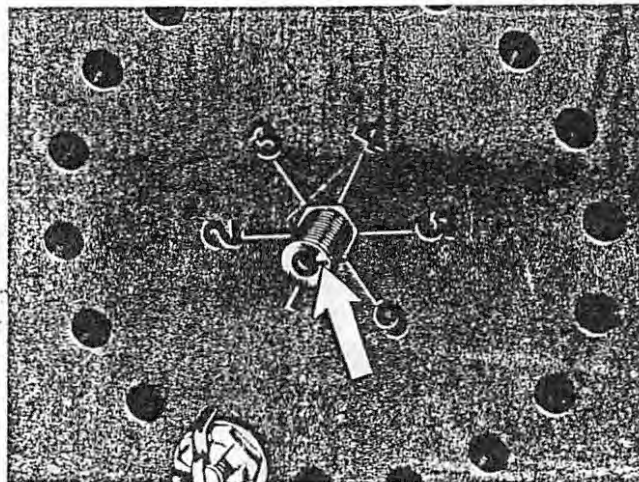

Figure 5-71. Control Shaft Scribe Mark and Pulley Index Numbers
f. When a governor is removed from the engine, it is often more convenient to remove the pulley from the governor rather than removing the control cable from the pulley. In this event, the numbered position of the pulley with respect to the index line on the control shaft should be noted and possibly marked on the pulley at the time of removal. See figure 5-71. At reinstallation, the pulley with the control cable attached is then reinstalled in the same position. This procedure minimizes the amount of adjustment required to obtain the correct relationship between the pulley range, control cable location, etc. The control cable should never be ex-